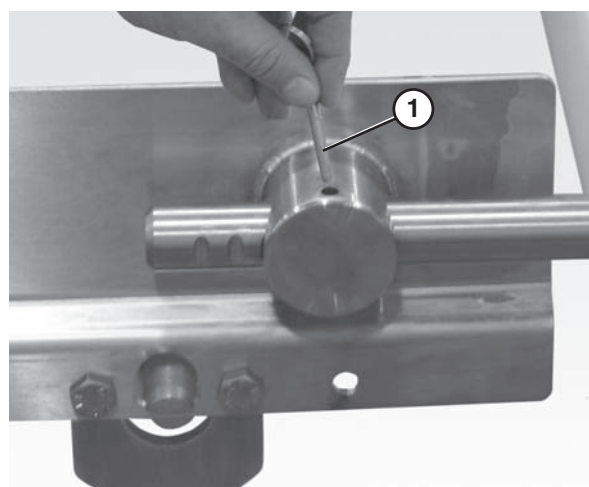

Figure 41
8. Insert the pull pins (Figure 41, item 1) on the tension end of the conveyor.